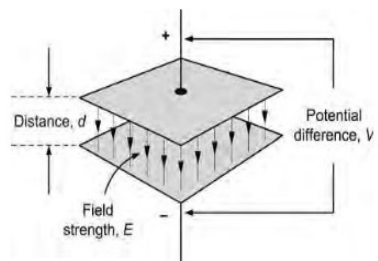

Fig. 5. Electric field strength between two charged conducting surfaces
The strength of an electric field (E) is proportional to the applied **potential difference** and inversely proportional to the distance between the two conducting surfaces (see fig. 5). The electric field strength is given by: